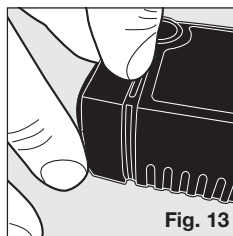

Fig. 13
- Remove the faceplate by using your thumb and forefinger to gently squeeze on both sides of the faceplate and pull off. It may be necessary to insert a fingernail into the seam of the faceplate to pry it off (**Fig. 13**).